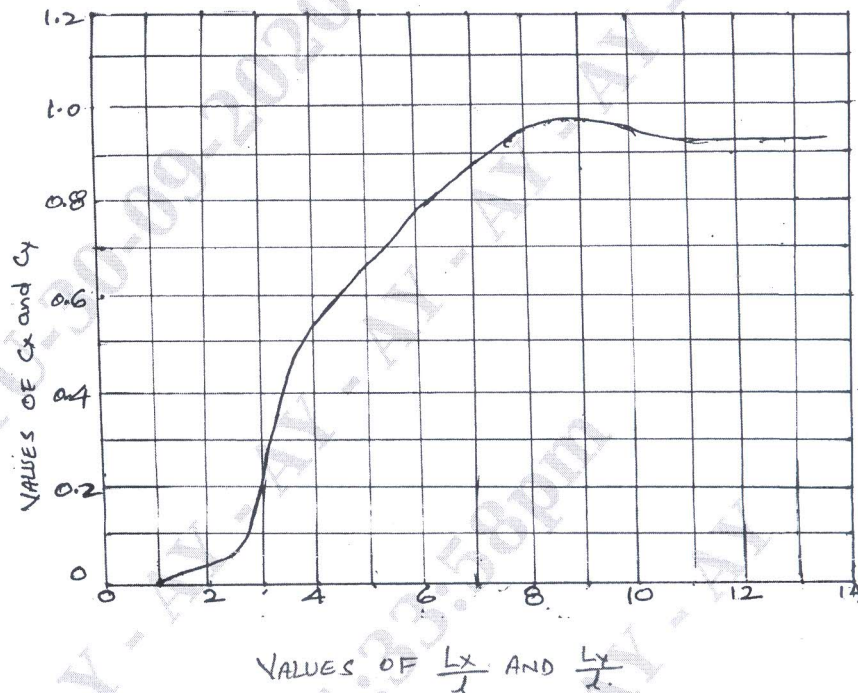

Fig.Q6(a) Warping Stress coefficient chart (By Bradury)
- 6 a. Determine the Warping stresses at Interior , Edge and Corner Region in a 25cm thick concrete pavement with Transverse Joints at 5.0m Interval and Longitudinal Joints at 3.6m interval. The modulus of sub grade reaction  $K$  is  $6.9 \text{ kg/cm}^3$  and Radius of loaded area is 15cms. Assume maximum temperature differential during day to be  $0.6^\circ\text{C}$  per cm. Slab thickness and minimum temperature differential of  $0.4^\circ\text{C}$  per cm. Slab thickness during the night, Additional datas are  $e = 10 \times 10^{-6}$  per  $^\circ\text{C}$  ,  $E = 3 \times 10^5 \text{ kg/cm}^2$  ,  $\mu = 0.5$ . Use the chart in fig.Q6(a).